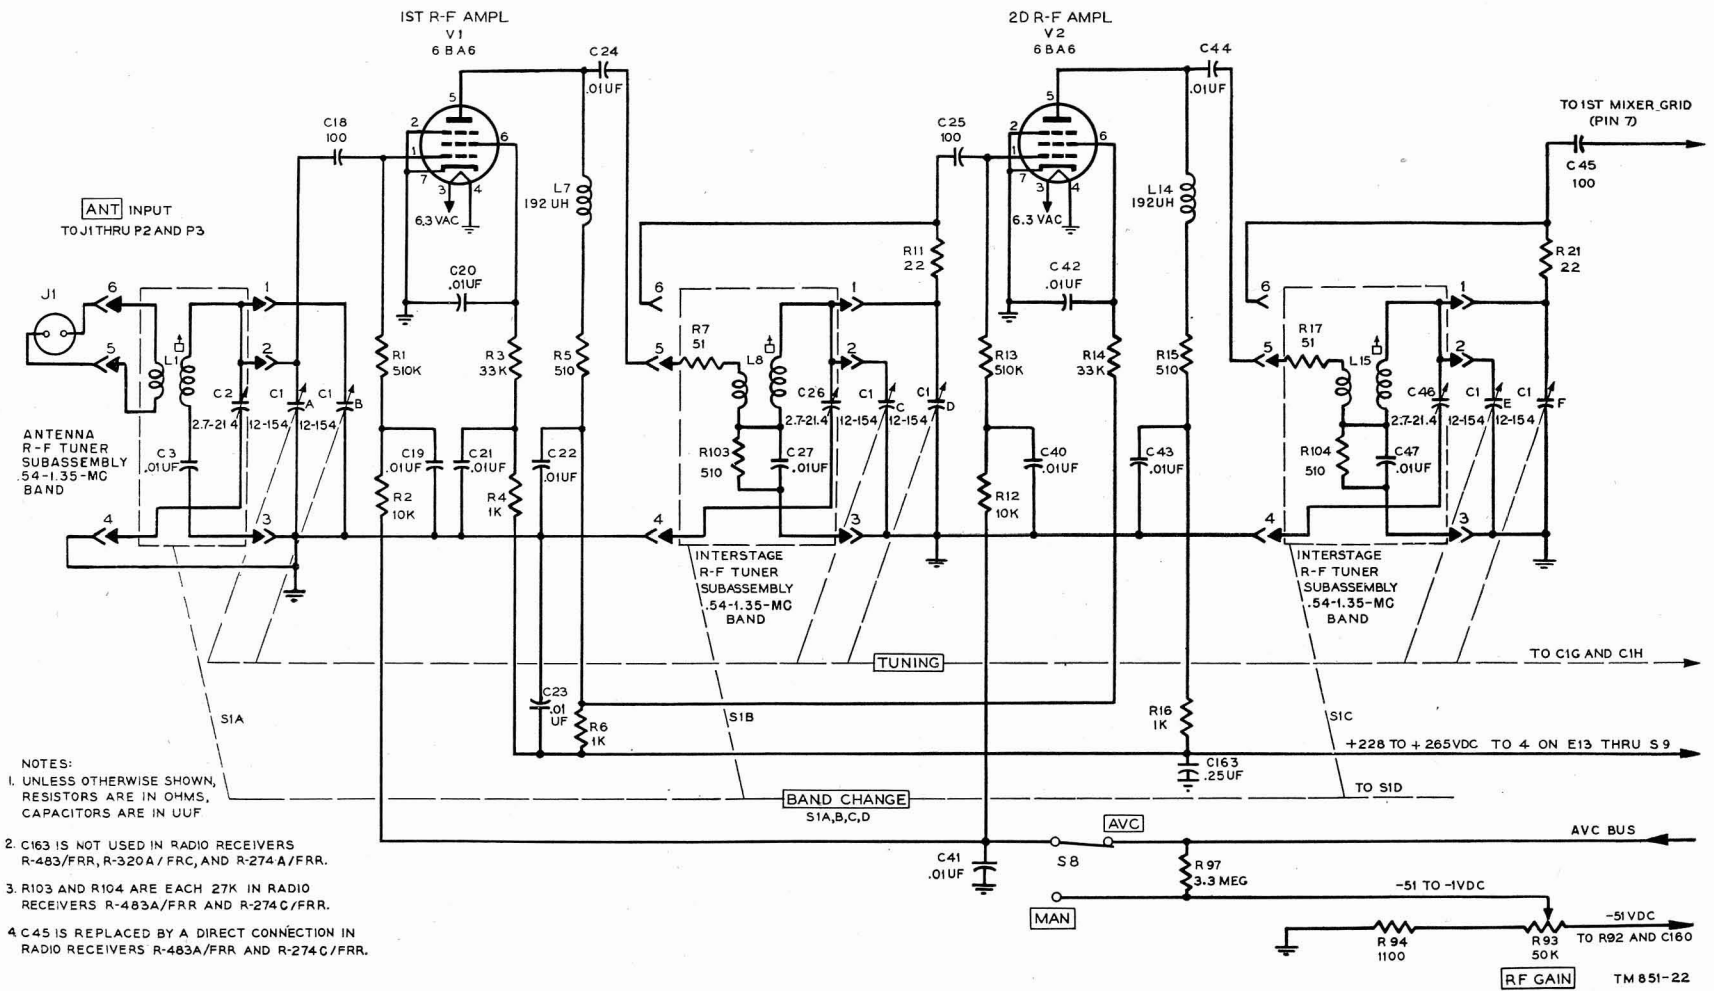
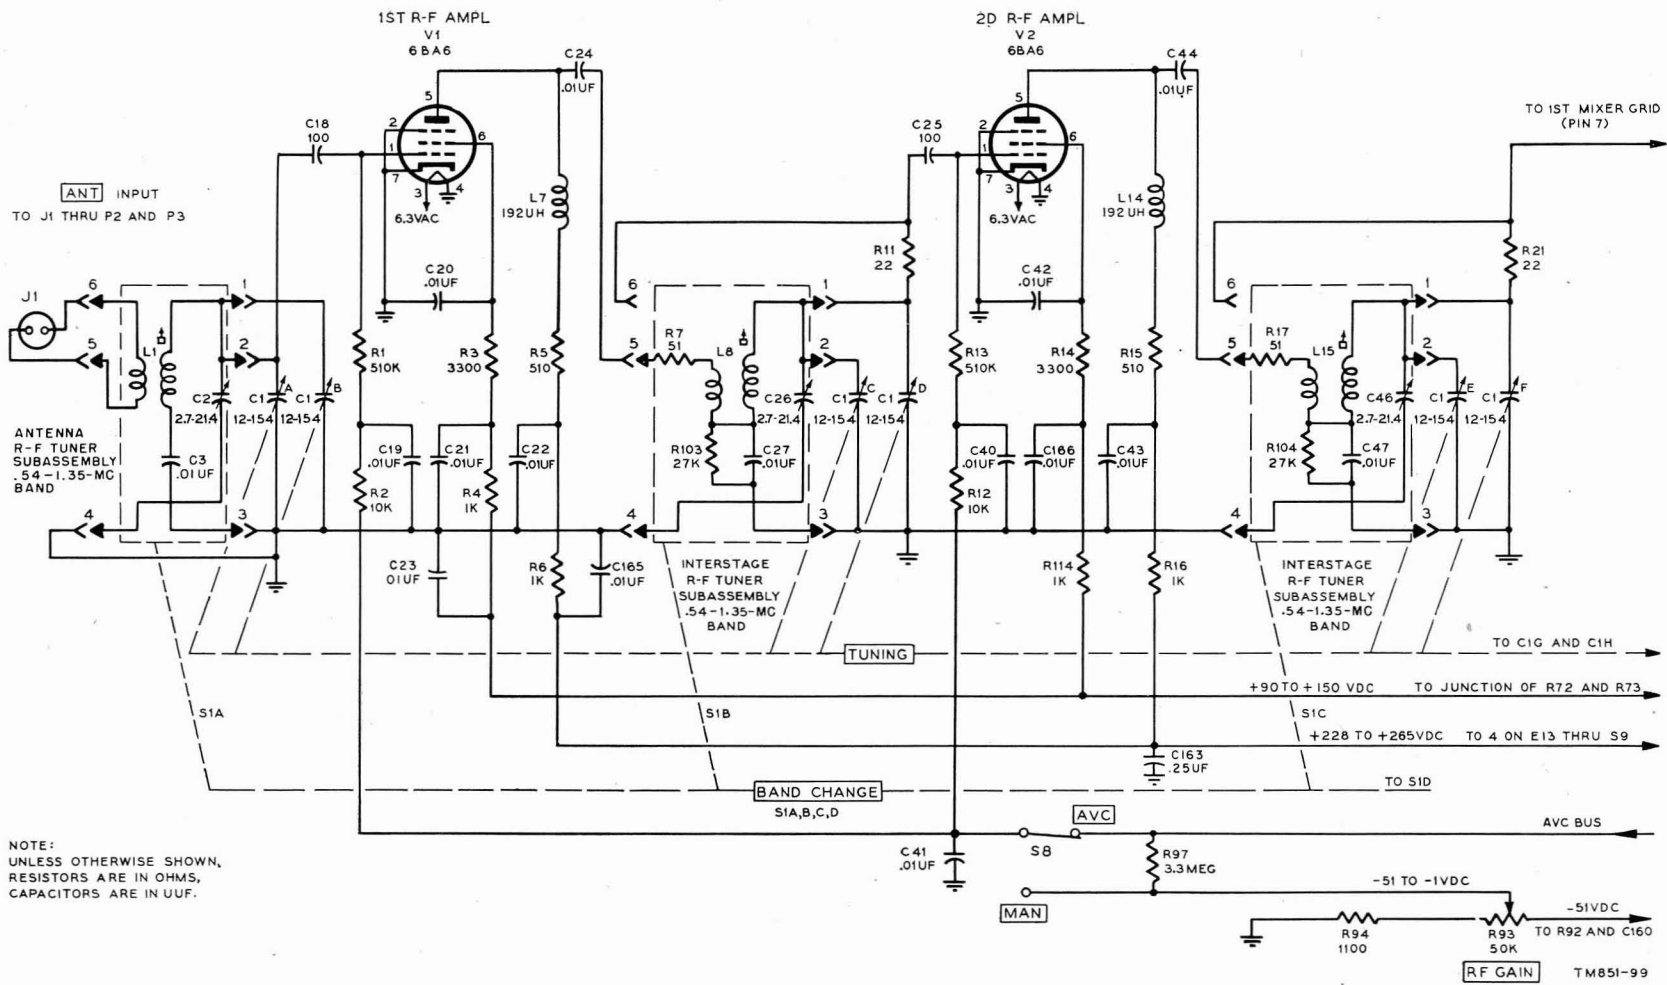
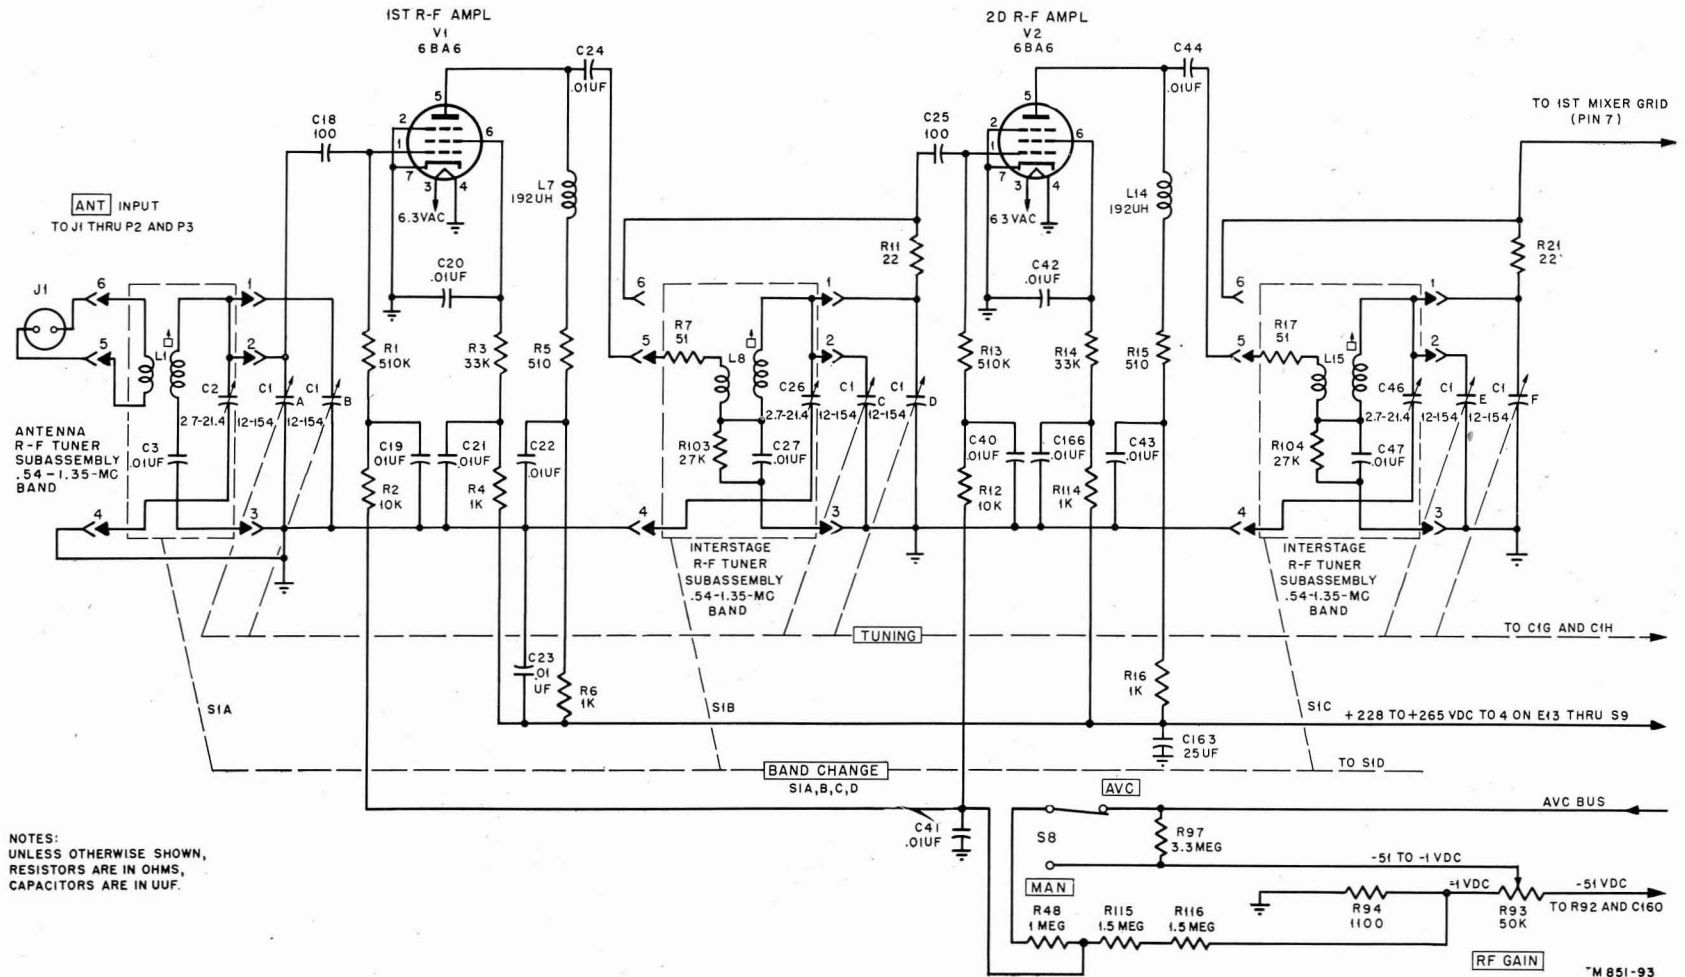

Figure 23. Radio receiver, all types, other than R-274C/FRR from serial No. 487, schematic diagram of two-stage r-f amplifier shown for band 1.
Figure 24. Radio Receiver R-274C/FRR, from serial No. 487 through 1569, schematic diagram of two-stage r-f amplifier shown for band 1.
Figure 25. Radio Receiver R-274C/FRR, from serial No. 1570, schematic diagram of two-stage r-f amplifier shown for band 1.
(figs. 23, 24, and 25)
*b.* Screen voltage is applied (from terminal 4 on terminal board E13) through a decoupling circuit (resistor R4 and capacitors C21 and C23) and the screen decoupling circuit (screen voltage-dropping resistors R3 and screen r-f bypass capacitor C20) (fig. 23). Plate voltage is applied (from terminal 4 of E13) through a decoupling circuit (resistor R6 and capacitors C22 and C23), resistor R5, and r-f choke L7. Capacitor C163 provides added supply line decoupling action in Radio Receivers R-483A/FRR and R-274C/FRR to serial No. 486. Separate screen voltage supply is provided V1 (from the junction of resistors R72 and R73) (fig. 24). Note that R3 now is 3,300 ohms. The plate voltage supply to V1 is outlined in figure 23, but decoupling capacitor C165 has been added, and C23 no longer provides for plate decoupling action. In figure 25, the screen and plate voltages are applied as outlined in figure 23 with C163 included. Capacitor C24 blocks the plate voltage from the tuned-plate circuit. Bias voltage is applied to the grid through AVC-MAN switch S8 and resistors R2 and R1. When S8 is in the MAN position, negative d-c voltage from the movable arm of RF GAIN control R93 is impressed directly to S8. When S8 is in the AVC position, this is still the case but resistor R97 is connected between S8 and R93. Resistor R94 provides a negative bias of 1 volt to the grid when R93 is set fully clockwise, usually when S8 is at AVC. Also, the avc negative bias developed by the avc rectifier is applied
fully to the grid through S8, R2, and R1 (figs. 23 and 24), but particularly so in figure 25, since resistors R48, R115, and R116 act as a voltage divider from the avc bus to the -1-volt d-c bias supply. The screw terminal tap junction between R48 and R115 is that normally used; the terminal between R115 and R116 is used for the direction finder use of the receiver. Capacitor C18 blocks the bias voltage from the tuned-grid circuit. Capacitors C19 and C41 and resistor R2 act as a filter in the avc line and have some effect on the time constant of the avc circuit. R97 isolates the avc bias to the grid circuit. In figure 25, when S8 is at AVC and R93 is set elsewhere than at the maximum clockwise position, the actual negative bias effective at the grid is a complex resultant of the avc bias developed and the bias caused by the setting of R93.
*b.* In figure 23, screen voltage is applied (from terminal 4 on terminal board E13) through a decoupling circuit (resistor R6 and capacitors C22 and C23), and the screen decoupling circuit (screen voltage-dropping resistor R14 and screen r-f bypass capacitor C42). Plate voltage is applied (from terminal 4 of E13) through a decoupling circuit (resistor R16 and capacitor C23 and C43), resistor R15, and r-f choke L14. Separate screen voltage supply is provided V2 (from the junction of resistors R72 and R73) (fig. 24). Note that R14 now is 3,300 ohms. The plate voltage supply to V2 is outlined in figure 23, but C165 has been added, and C23 no longer provides for plate circuit decoupling action. In figure 25, the screen and plate supply voltages are applied as outlined in figure 23, with C163 included; also resistor R114 and capacitor C166 are used to provide for further screen circuit decoupling action. Resistor R6 is no longer in the screen voltage supply to V2. Capacitor C44
*c.* Signal voltage across L8 is coupled through resistor R11 and capacitor C25 to the control grid of the 6BA6 tube used in the stage. The amplified signal output of the stage appears across C1F. It is coupled through resistor R21 and capacitor C45 (fig. 23) to first mixer V5, but C45 is not used in figures 24 and 25. R13 isolates signal input voltages to the control grid and L14 and R15 isolate signal output voltages to the tuned circuit. R15 provides for the blocking impedance presented by L14 and R15 to be more uniform throughout the band than that of L14 alone. Grid suppressor resistor R11 provides against the spurious oscillation of the stage.